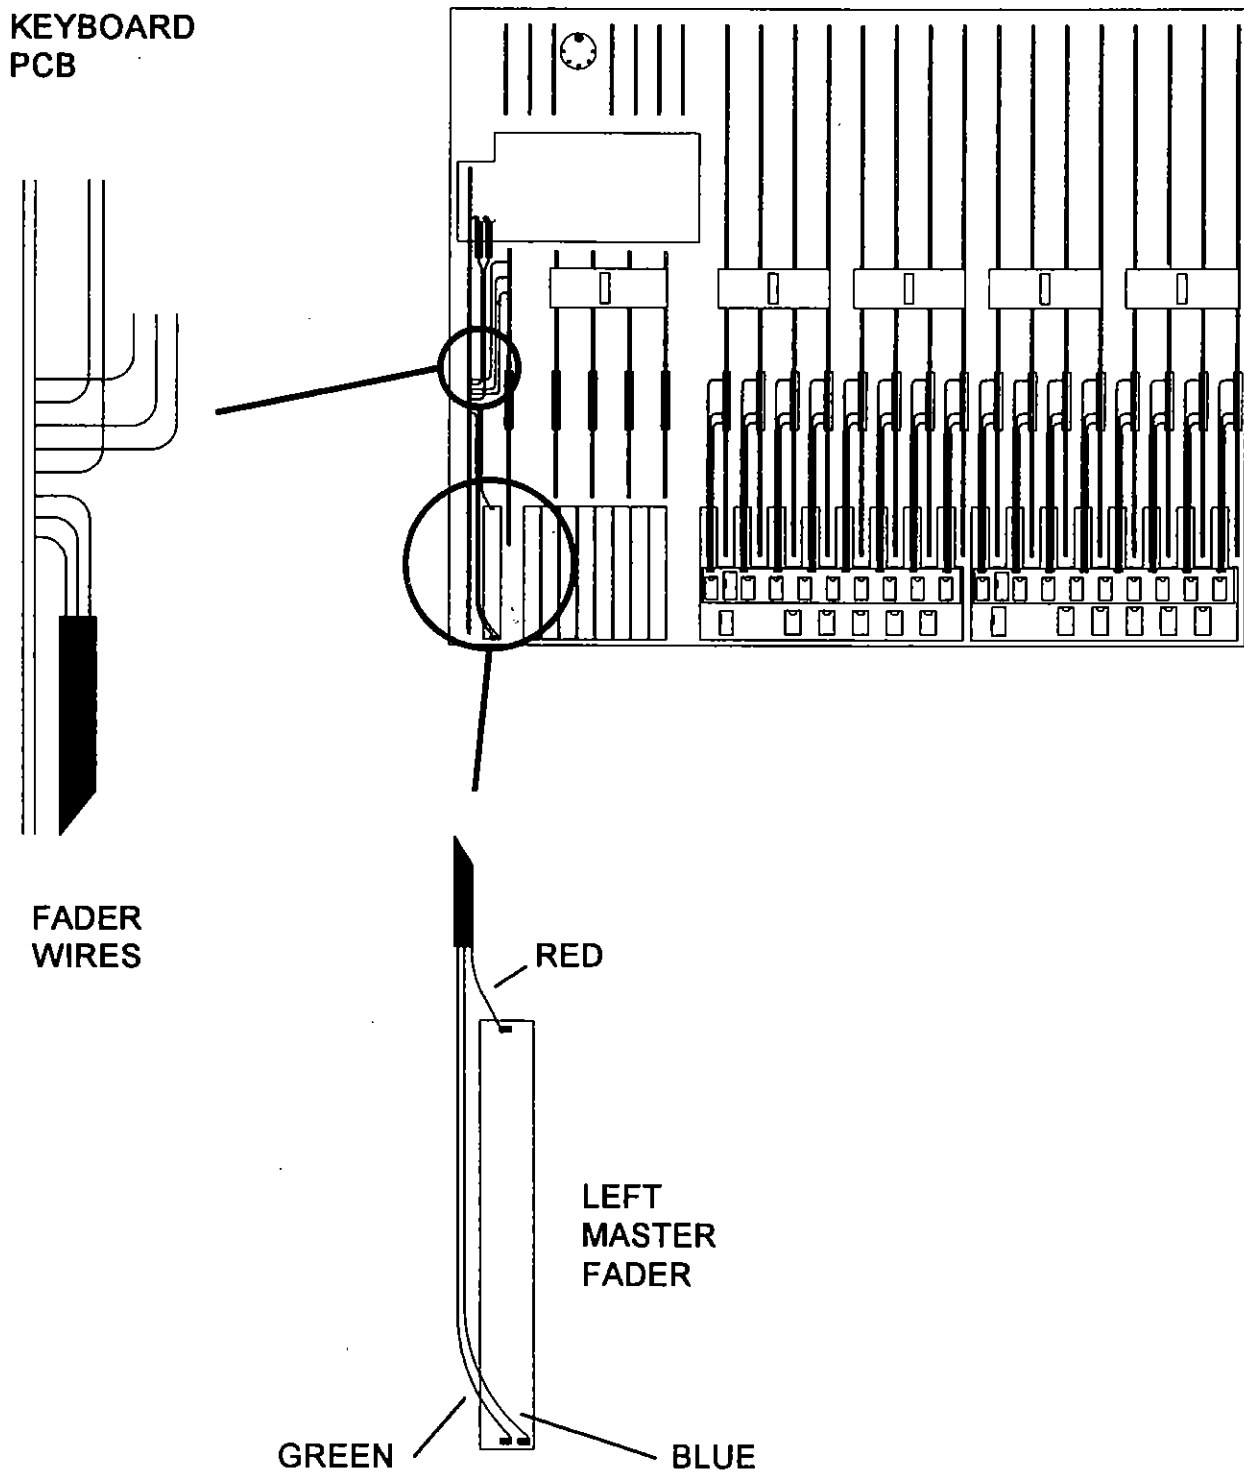

Fig. 11a.
1. Unpack the Keyboard PCB (PCB No: AG0332) in the kit, and place along side the Master PCB. Solder the longer Red, Green & Blue fader wires from the Keyboard PCB to the left Master fader as shown, see Fig 11a.